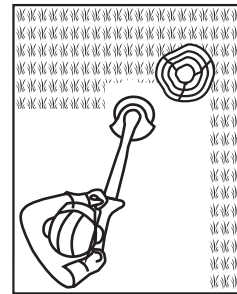

Fig. 12
3. Pay special attention when performing the work close to trees and bushes. The cutting head could damage sensitive bark, and damage fence posts (Fig. 12).